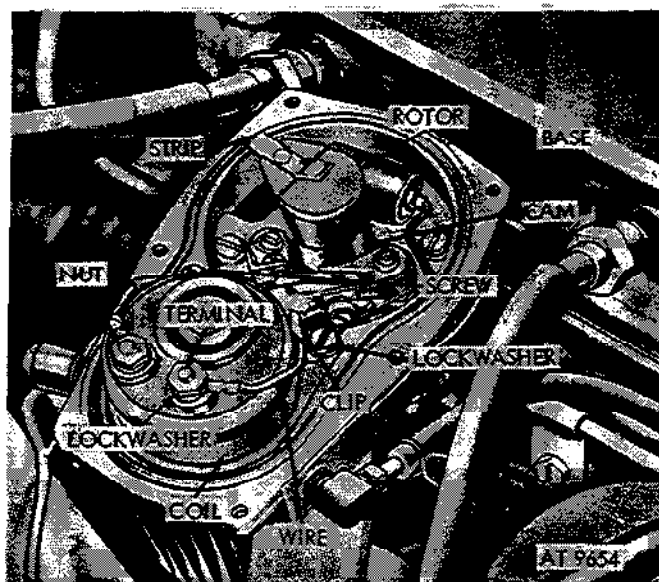

Figure 2-151. Remove rotor.
(4) Lift rotor off cam and check rotor for cracks, loose contact strip, and excessive burning. Remove two terminal wire nuts and lockwashers from coil terminals. Remove two coil mounting screws and lock from distributor base (fig. 2-151).